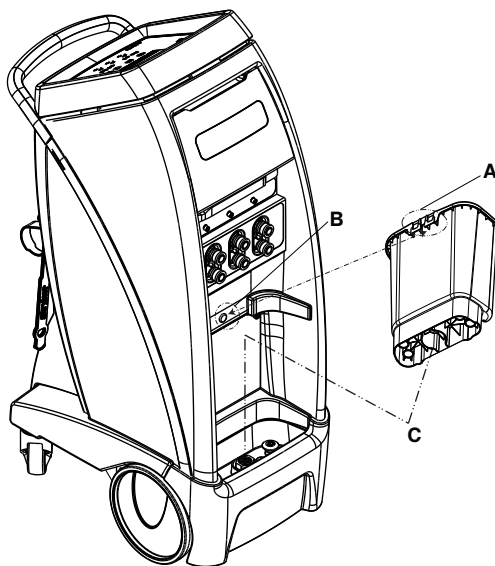

Figure 16 – Removable reservoir
To remove the reservoir, pull forward at an angle, and lift out the reservoir (Figure 16).
1. To replace the reservoir, align the base of the reservoir over the drain (C).
2. Align the notch on the back of the reservoir (A) with the hook on the controller (B) (Figure 16)